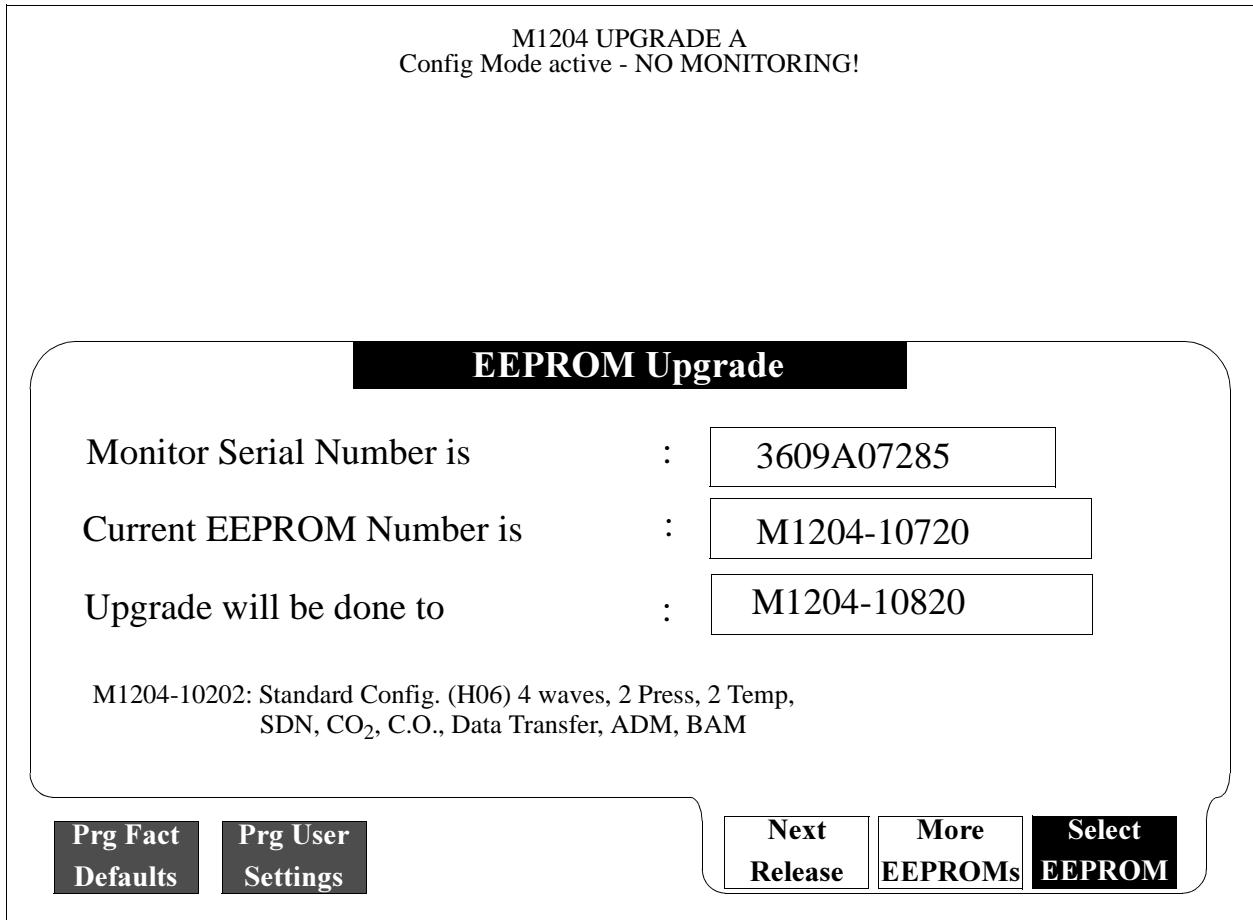

Figure 2-7 EEPROM Upgrade Select Screen
- Step 2** Press the **Select EEPROM** softkey to display the Select EEPROM screen shown in Figure 2-7.